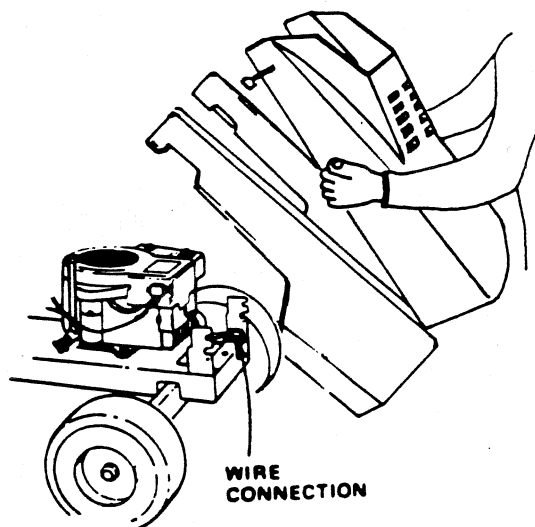

FIGURE 47
- Lift Hood, Disconnect headlight wiring connection (Fig. 47)
- Pivot hood and Side Panel Forward and lift off tractor (Fig. 47)